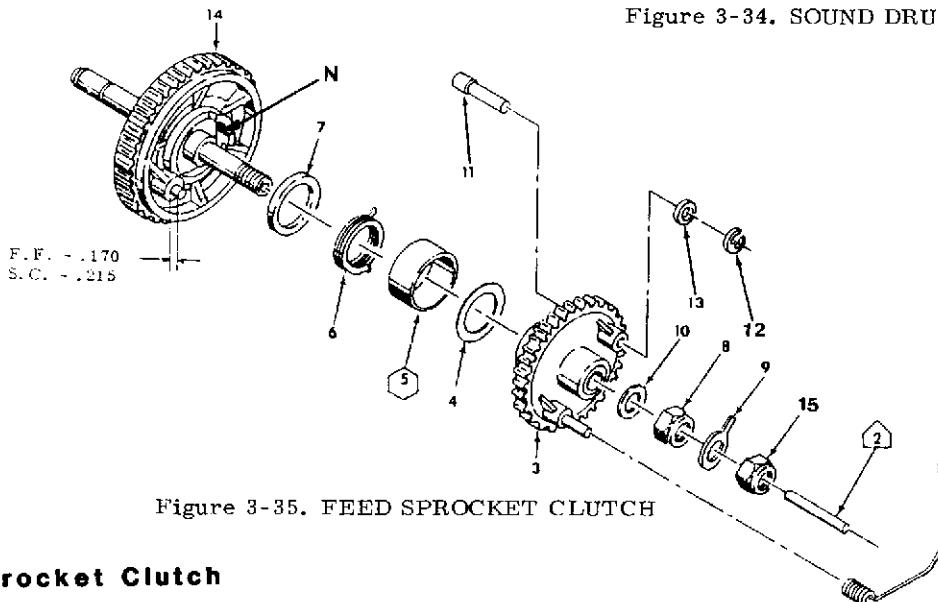
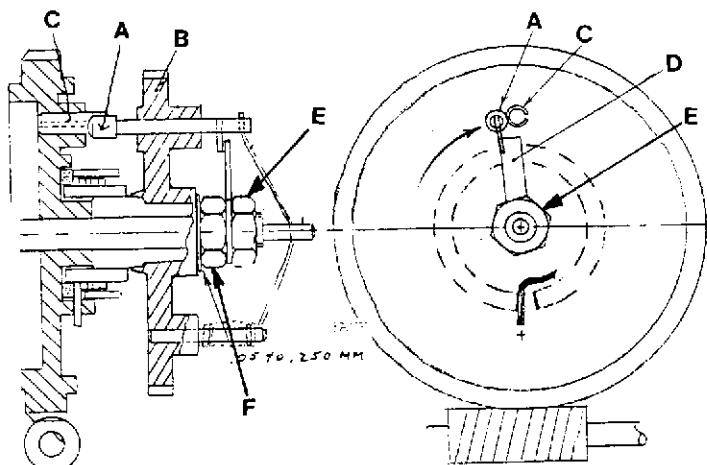

Figure 3-35. FEED SPROCKET CLUTCH
Figure 3-36. FEED SPROCKET CLUTCH ADJUSTMENT
- Lubricate the Spring (6) with 009 Lubricant (39479-P7) (Figure 3-35).
- Assemble the Lubricating Pad (7) and the Clutch Spring (6) making sure the tail of the Spring (6) is trapped in the Notch (N) of Gear (14).
- Assemble Pin (11) to the Gear and Hub Assembly (3) and assemble the remaining parts on the shaft of Gear (14) in the order shown.
- Adjust the Nut (8) to obtain .002" to .010" end play on the Gear and Hub Assembly (3).
- Assemble Stop (9) and Nut (15) and tighten the Nut (15) just enough to hold the Stop in place.
- Depress Pin (A) and turn Clutch Gear (B) clockwise until Pin (A) touches Pin (C). HOLD GEAR (B) — DO NOT ALLOW IT TO SPRING BACK. (Figure 3-36)
- Position the Stop (D) so that the corner or edge is just over the small cross pin of Pin (A) as shown.
- Hold Nut (F) to prevent it from turning and tighten Nut (E) being careful not to allow Stop (D) to turn during this tightening process.
- Recheck the end play of the Gear and Hub Assembly (B) for .002" to .010". Repeat Steps 6 through 9 until the Stop (D) is positioned properly and the end play is correct.
- Lubricate the outside diameter of Pin (2) with Teresso Instrument Oil (39479-P8) and insert the pin in the hole in the end of the shaft of Gear (14). (Figure 3-35)
- Insert the Spring (1) through the hole in the end of Pin (2) and then into the hole in the end of Pin (11).
- Push the Spring (1) onto the Roll Pin protruding from the Gear and Hub Assembly (3). (On Fast Forward models, be sure the cross pin in Pin (11) is pointing toward the shaft of Gear (14).)